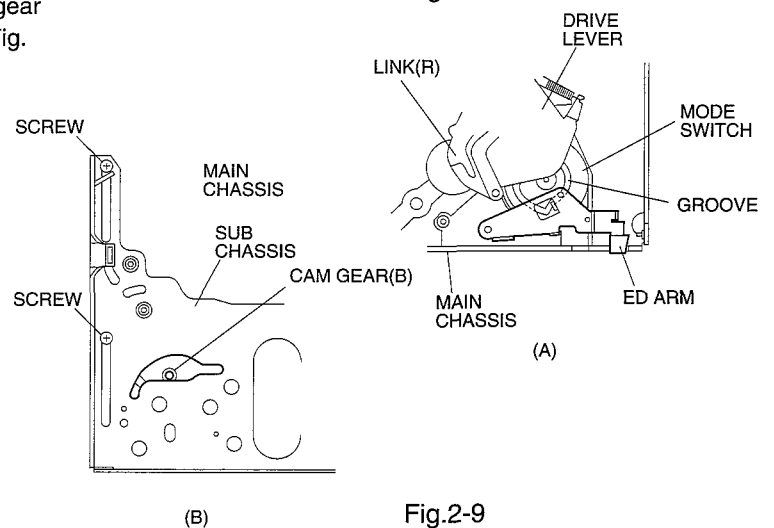

Fig.2-9
1. The ED arm must be installed in the position shown in Fig. 2-9(A).
3. Install the sub chassis so that the projection of cam gear (B) and the screw are set to the positions shown in Fig. 2-9(B).